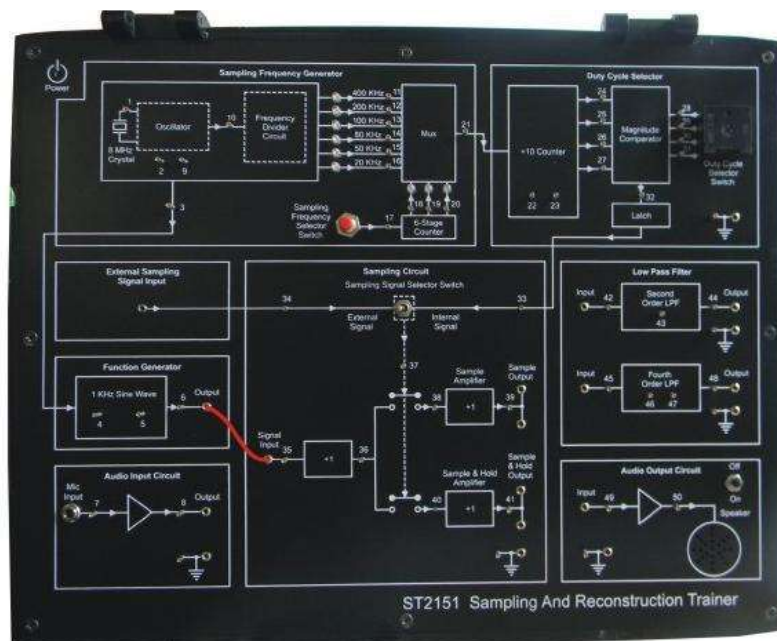

Fig. 1.1. Connection diagram for sampling a signal
2. Connect 1 KHz Sine wave to signal Input as shown in Fig.1.1.